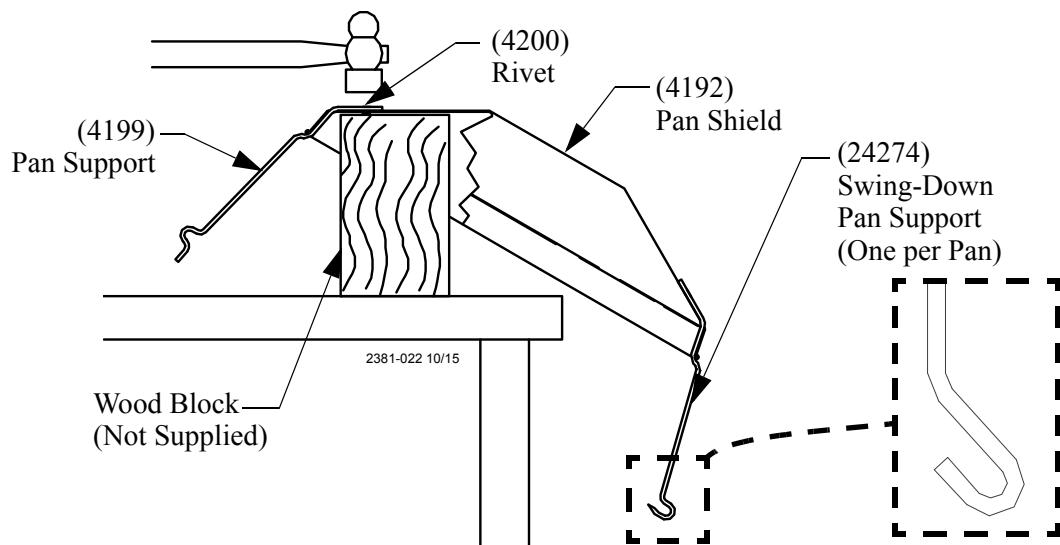

Figure 21.Pan Shield Assembly
1. For NON Swing-Down Pans attach four Pan Supports (4199) to each Pan Shield (4192) with the Rivets (4200) supplied as shown in **Figure 21**.
2. For Swing Down applications attach one Swing Down Pan Support (24274) and three regular Pan Supports (4199) to the Pan Shield using Rivets supplied. Always attach the Swing Down Pan support at the same location on all Pan Shields. It will be necessary to support the Pan Shield while installing the Rivets. Use a hammer to drive Rivets as shown in **Figure 21**.